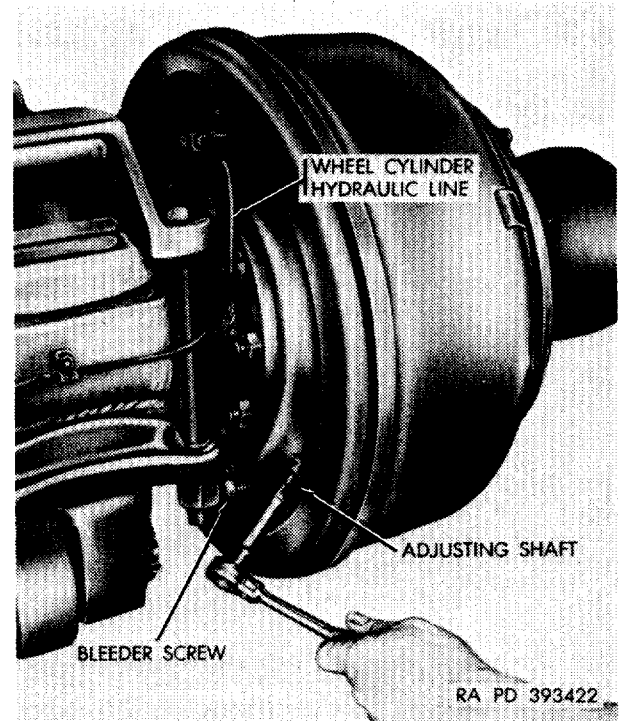

Figure 4-45. Brake lining clearance adjustment
2. Engage adjusting shaft (fig. 4-45) with a 3/8-inch socket wrench. Rotate shaft in direction of forward wheel rotation to decrease brake lining clearance until lining drags on drum. Check drag on drum by rotating wheel in forward direction of rotation. Make a brake application to be certain shoes are centered; adjust as required.
- (1) The semitrailer brake system must be connected to the brake system of the towing vehicle for manual bleeding operations since the brake pedal must be pressed and released to actuate the system. The master cylinder reservoir must be kept full during bleeding operations or air will enter the system and make rebleeding necessary.
- (2) Clean bleeder screw (fig. 4-45) at bottom of brake dust shield enclosure.